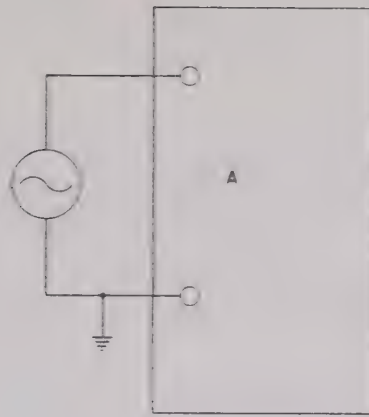

FIG 2A
3. Single Ended and Differential Input: Single ended input is accomplished by grounding one grid and using the other for the signal as shown in Fig. 2A. This is the simplest configuration, one terminal at ground and the other the signal lead. The ground terminal of the source must be firmly grounded to the ground of the amplifier. This configuration, however, offers no discrimination against spurious signals.